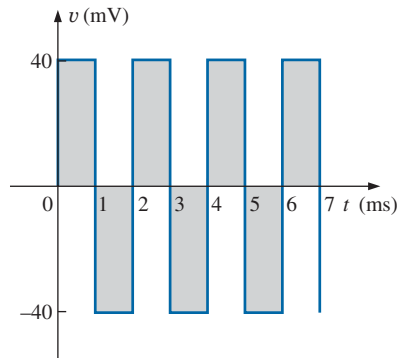

FIG. 13.87
3. For the periodic square-wave waveform in Fig. 13.87: